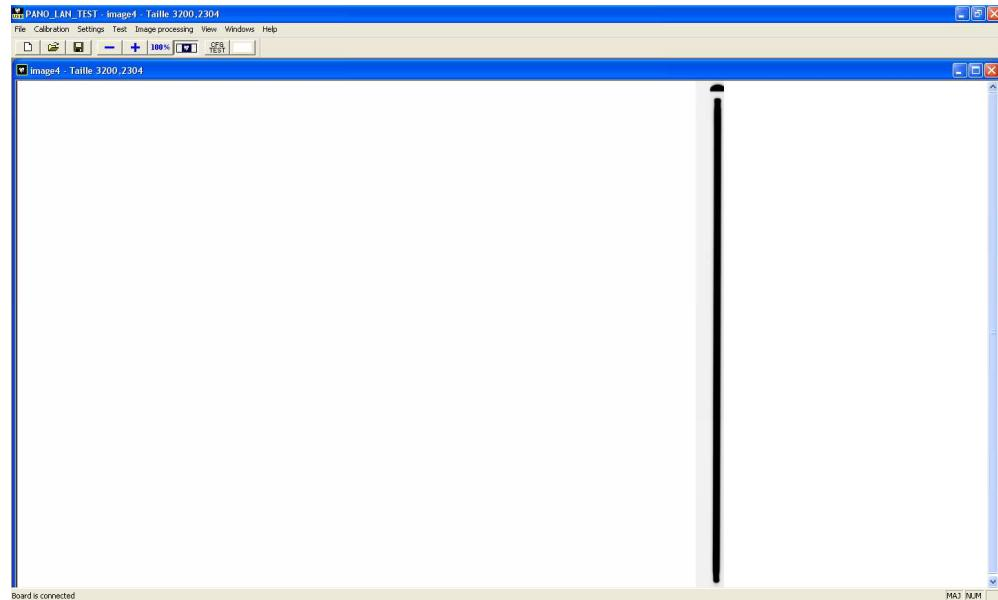

Figure 9-34
39. Take X-ray pressing the X-ray button and check if in the obtained narrow image the projection of the slit of the centering tool is vertical and centered with the arc (Figure 9-34 and Figure 9-35).